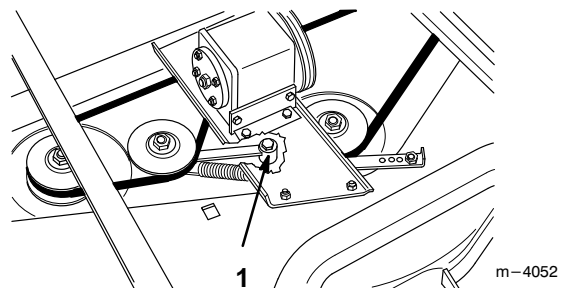

Figure 23
7. Oil the mower idler arm pivot every 25 hours with a few drops of SAE 30 oil (Fig. 23).